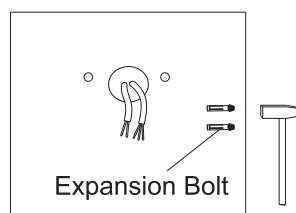

Figure 10
Step 2: Knock the expansion bolts into the wall. (Figure 10)